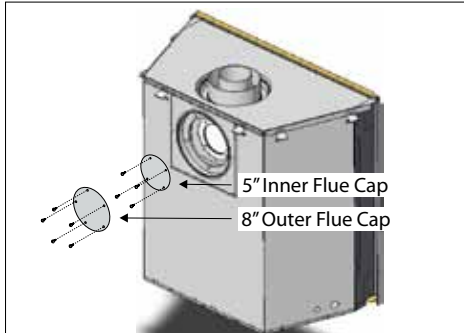

Figure 8a. Flue cap installation for Rear Vented fireplace.
1. Install the 5" inner flue cap on the top flue outlet and secure the cap in place with five screws, as shown in figure 8a.
2. Install the 8" outer flue cap on the top flue outlet, and secure it with five screws, as shown in figure 8a.